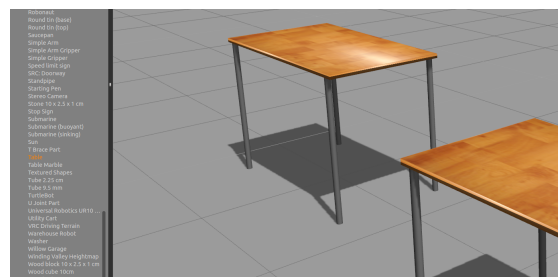

Figure 3.2: Place two tables.
3.- Click once on the word *table* from the list and then move the mouse over the simulation space. You will see that the model of a table is following the cursor. Click somewhere on the simulation space to place a table on the scenario. Repeat this step twice (see Fig. 3.2).